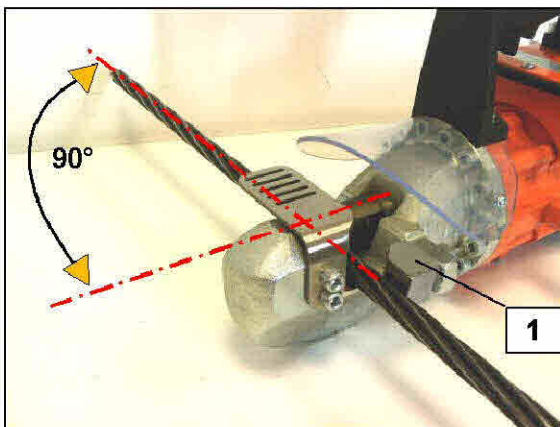

Fig. 3A
Position the blade perpendicular to the axis of the work piece (fig. 3A).
- Place the workpiece against the fixed blade and check bracket of the head (see ref. 1 in fig. 3A) to ensure it is perpendicular to the machine axis (fig. 3A);